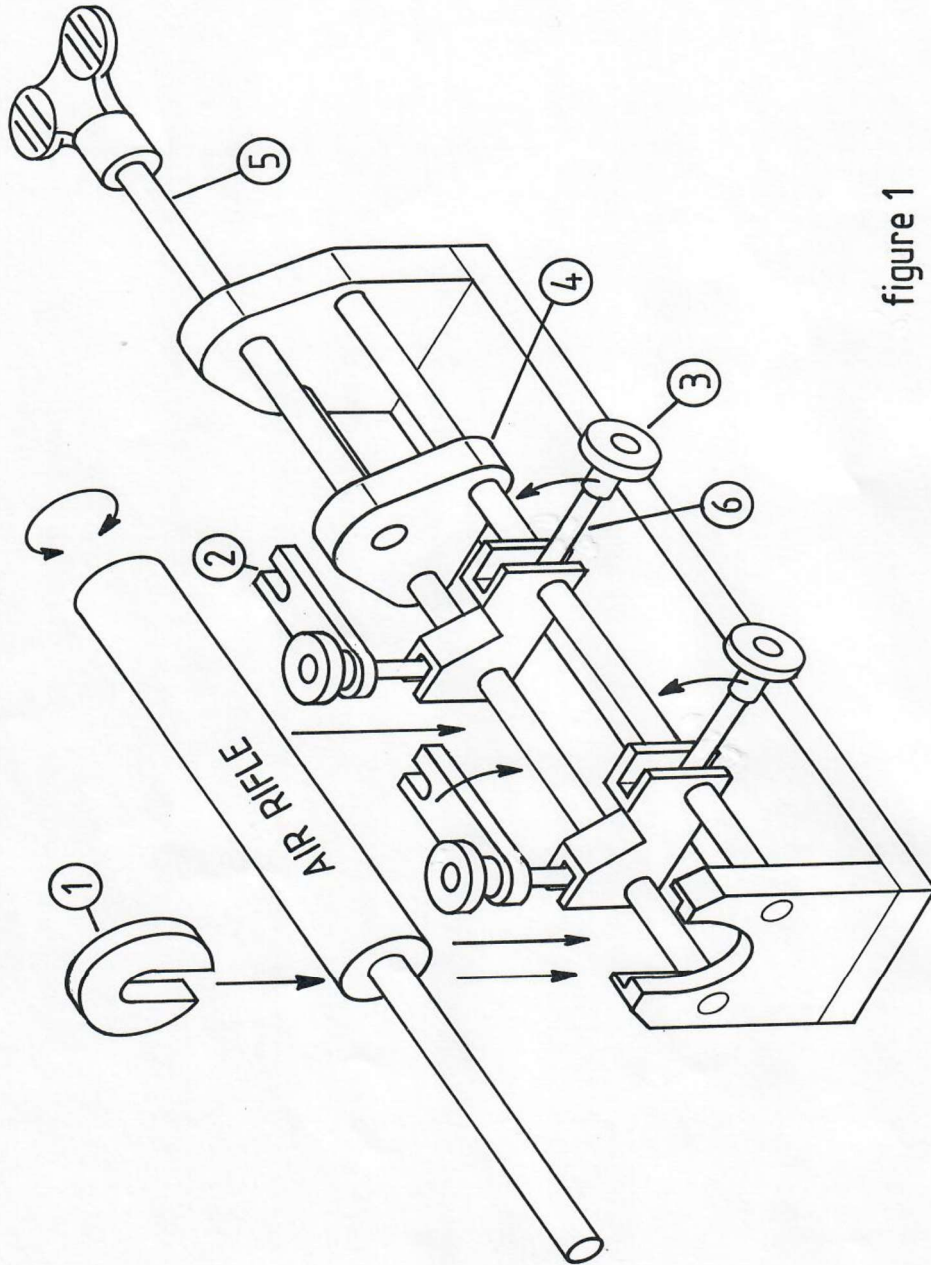

figure 1
1. Place the air rifle as follows in the SC91XL (see figure 1):
- **place stop disc (1) over the barrel, in the recess of the frame.** (otherwise the rifle will shift out of the SC91XL)